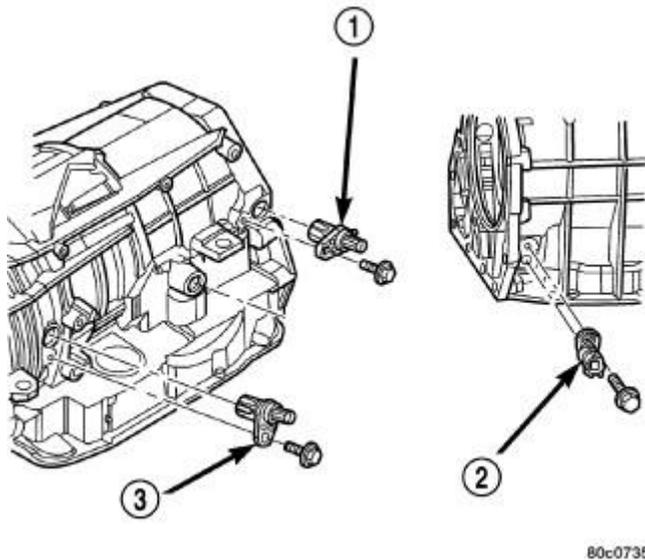

Fig. 197: Input, Output, & Line Pressure Sensors
1. Install the output speed sensor (1) into the transmission case. Refer to **Fig. 197**.
2. Install the bolt to hold the output speed sensor (1) into the transmission case. Tighten the bolt to 12 N.m (105 in.lbs.).
3. Install the wiring connector onto the output speed sensor (1).